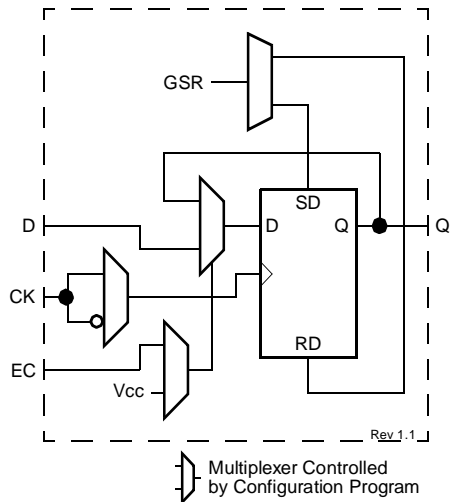
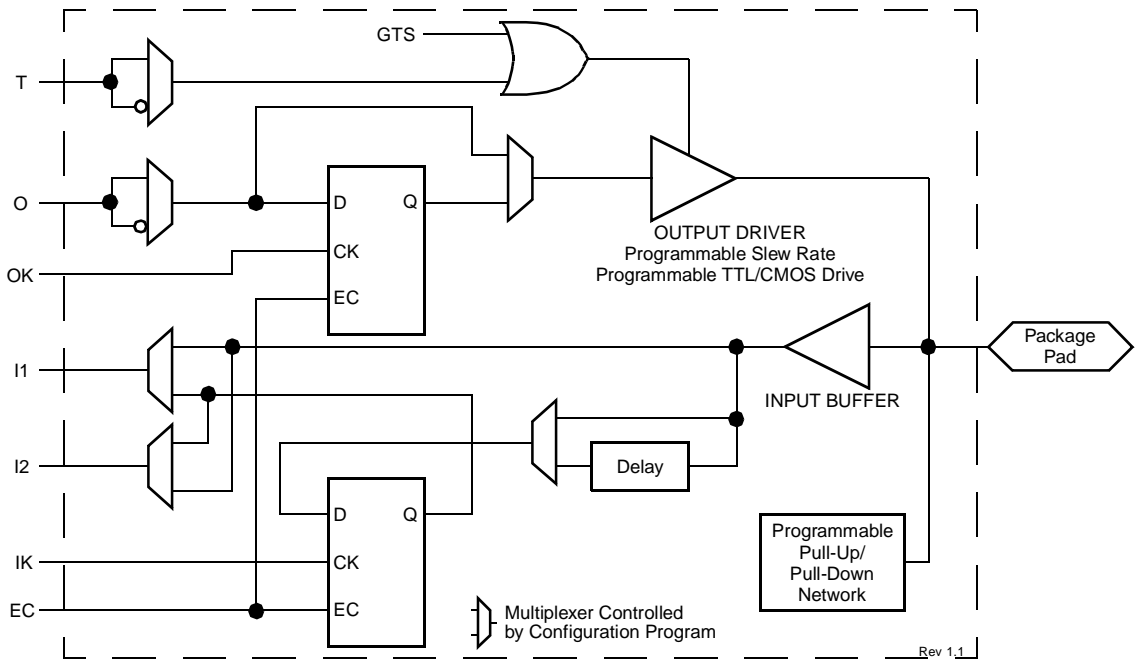

Figure 6: IOB Flip-Flop/Latch Functional Block Diagram
Figure 5: Simplified Spartan/XL IOB Block Diagram
User-configurable input/output blocks (IOBs) provide the interface between external package pins and the internal logic. Each IOB controls one package pin and can be configured for input, output, or bidirectional signals. Figure 5 on page 6 shows a simplified functional block diagram of the Spartan/XL IOB.
The input signal to the IOB can be configured to either go directly to the routing channels (via I1 and I2 in Figure 5) or to the input register. The input register can be programmed as either an edge-triggered flip-flop or a level-sensitive latch. The functionality of this register is shown in Table 3, and a simplified block diagram of the register can be seen in Figure 6.
The register choice is made by placing the appropriate library symbol. For example, IFD is the basic input flip-flop (rising edge triggered), and ILD is the basic input latch (transparent-High). Variations with inverted clocks are also available. The clock signal inverter is also shown in **Figure 6** on the CK line.
The output of the input register goes to the routing channels (via I1 and I2 in **Figure 5**). The I1 and I2 signals that
An active High 3-state signal can be used to place the output buffer in a high-impedance state, implementing 3-state outputs or bidirectional I/O. Under configuration control, the output (O) and output 3-state (T) signals can be inverted. The polarity of these signals is independently configured for each IOB (see Figure 5 on page 6). An output can be configured as open-drain (open-collector) by tying the 3-state pin (T) to the output signal, and the input pin (I) to Ground.
As with the CLB registers, the GSR signal can be used to set or clear the input and output registers, depending on the value of the INIT attribute or property. The two flip-flops can be individually configured to set or clear on reset and after configuration. Other than the global GSR net, no user-controlled set/reset signal is available to the I/O flip-flops (Figure 6). The choice of set or reset applies to both the initial state of the flip-flop and the response to the GSR pulse.
The input and output flip-flops in each IOB have a common clock enable input (see EC signal in Figure 6), which through configuration, can be activated individually for the